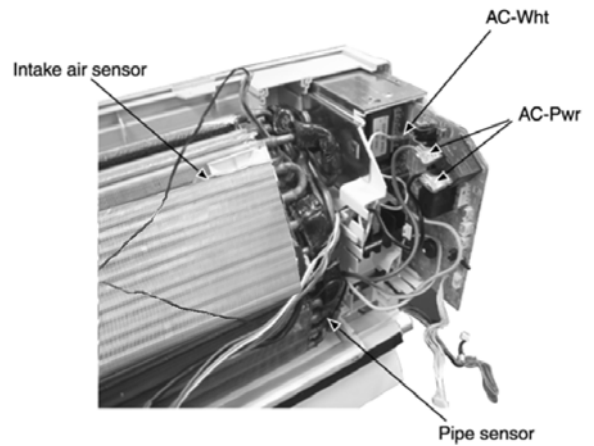

Fig. 5
- Press the hook to the right then take out the PCB(Fig. 5)
- Remove Ry-Pwr connector (black and brown) and Ac-Wht connector from the PCB. (Fig. 5)